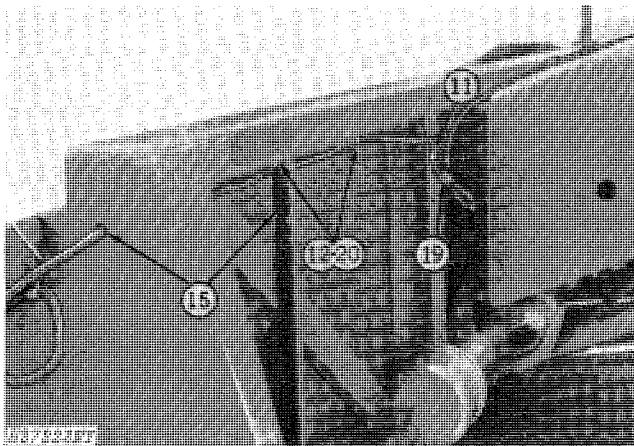

Fig. 115-Installing Clamps and Routing Conduit (653 Row-Crop Head Illustrated)
11. Install "J" clamp, using 5/16 x 5/8-inch round head bolt, lock washer, and nut (Fig. 115).
12. Install "J" clamp. 453 and 454 Row-Crop Heads use one "J" clamp with existing hardware (Fig. 115). Larger row-crop heads use two "J" clamps with existing hardware.
15. Run conduit on back sheet of row-crop head, through "J" clamps, under brace, and through hole in side sheet and under two more "J" clamps (Fig. 115).
19. Be certain there is enough conduit to connect two conduit connectors from feeder house and header (Fig. 115).
20. Secure two or three rear "J" clamps (Fig. 115).